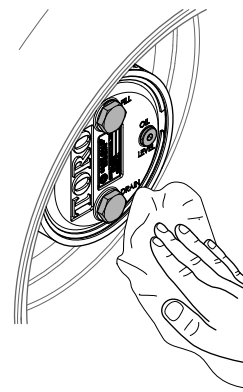

Figure 68
3. Wipe clean the planetary and brake housings (Figure 68).